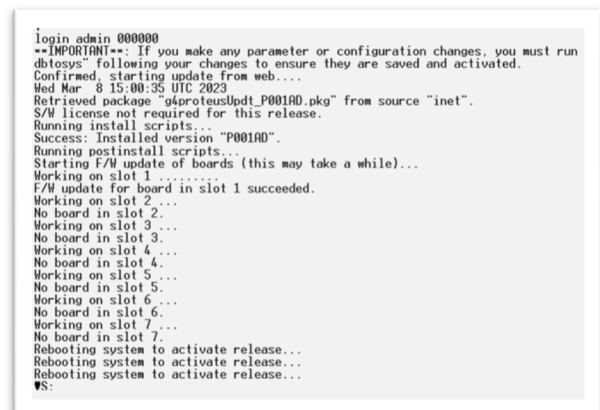

Figure 3
- The firmware upgrade package will begin retrieving from the Web. Allow it to run completely. The PROTEUS® display will confirm it is updating and request you to "please wait." Do **NOT** disrupt this process nor touch the display screen. If the system was in alarm before the firmware upgrade, it will reappear during the process. Once the firmware update has been installed, an auto-reboot of the PROTEUS® will happen. See Figure 3.